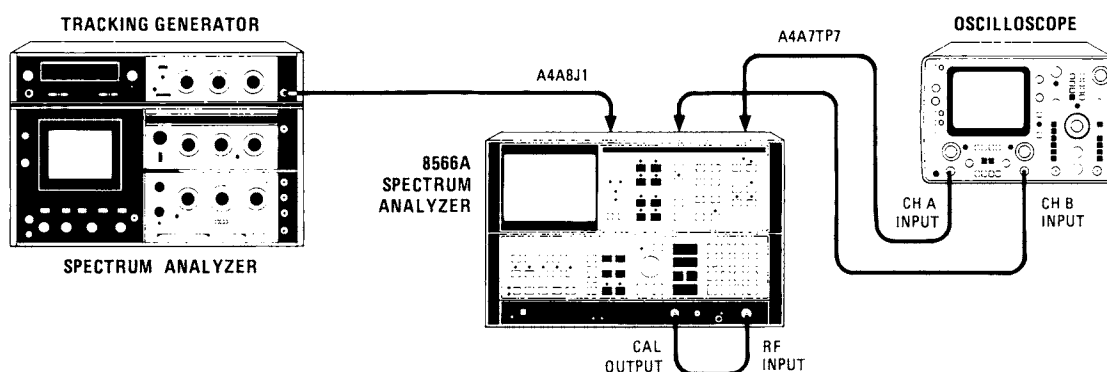

Figure 5-23. 3 MHz Bandwidth Filter Adjustments Setup
1. Position instrument upright as shown in Figure 5-23 and remove top cover.